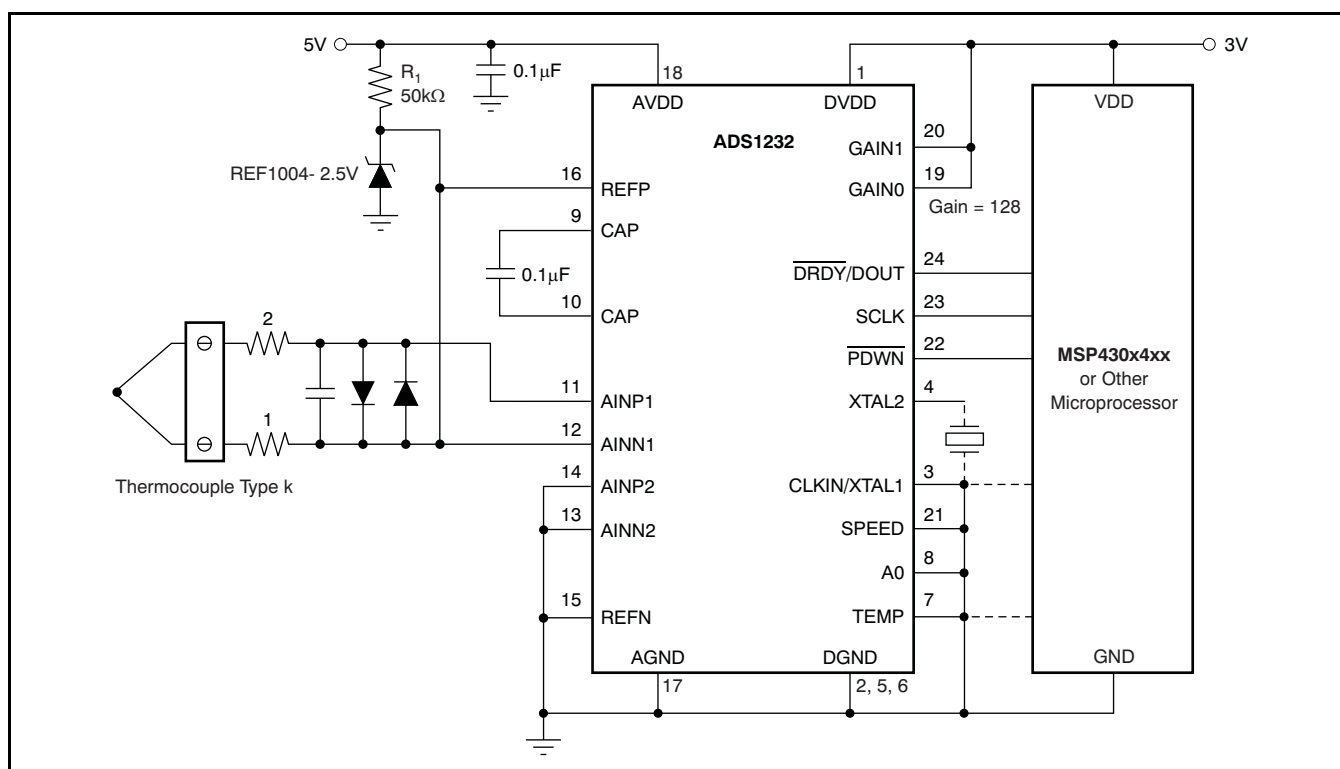

Figure 43. Ungrounded Junction Thermocouple Application
See Figure 43 for the ADS1232 in a thermocouple application. In this example, a type *k* thermocouple is used; the temperature range is from –260°C to +900°C when the gain is set to 64 to maximize the full input range of the ADS1232. R_1 and a REF1004-2.5V are used to set the common-mode voltage to 2.5V for ungrounded junction thermocouples. With a gain of 128, the ADS1232 input has a typical noise of 17nV_{RMS} for extremely high-resolution applications.
- Changed Figure 43 25